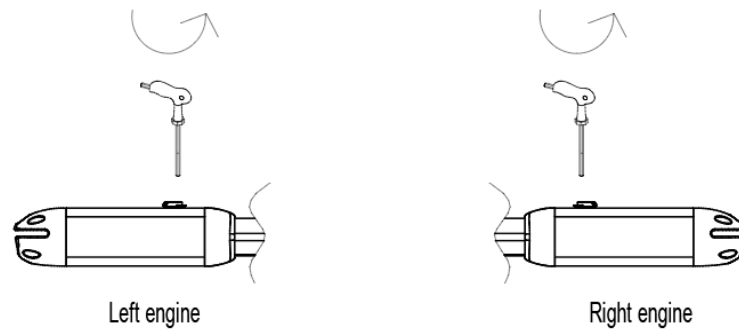

Figure 6
**Method of unlocking:** Remove the cover, insert the manual release bar, and rotate the bar until it is released, as indicated in Figure 6. Then turn the telescopic arm to stretch it easily.